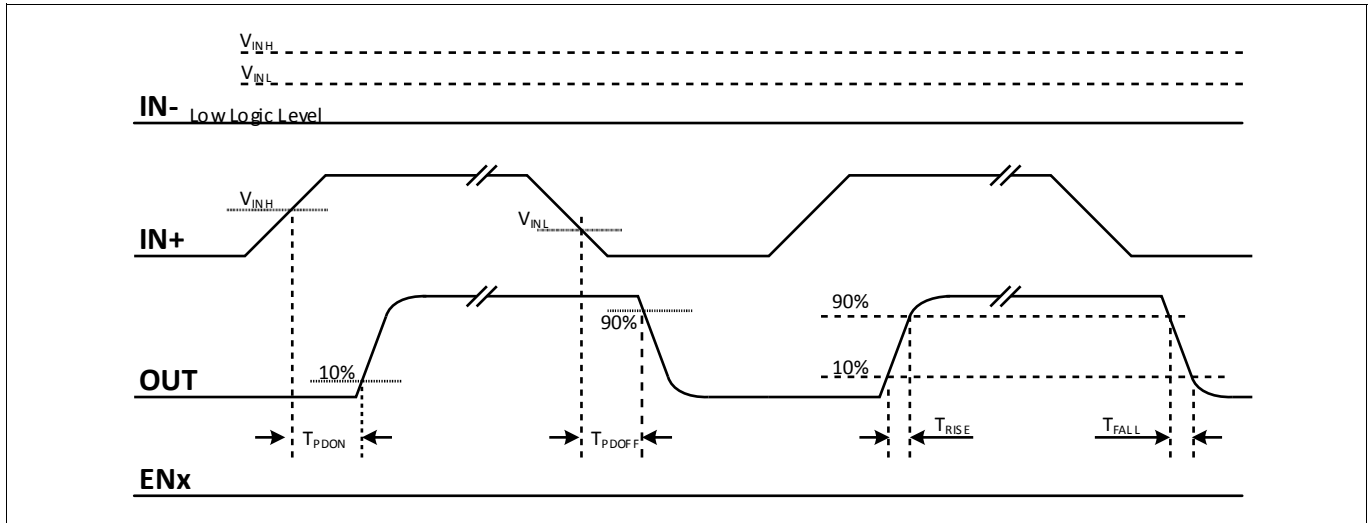
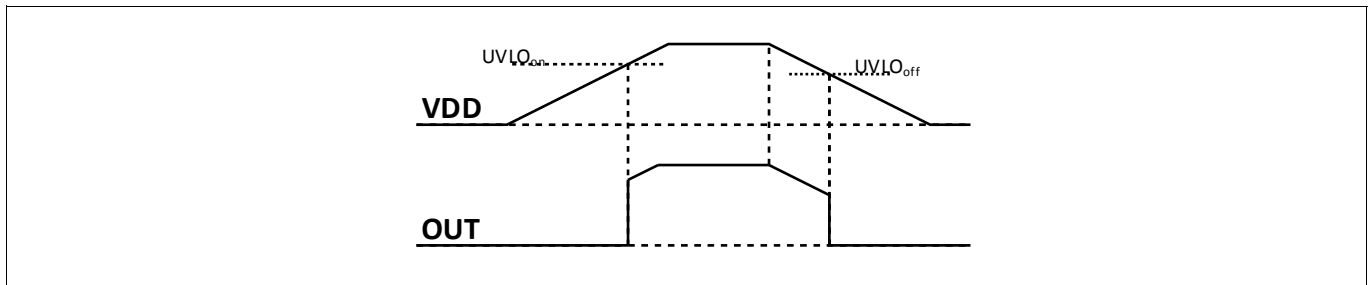
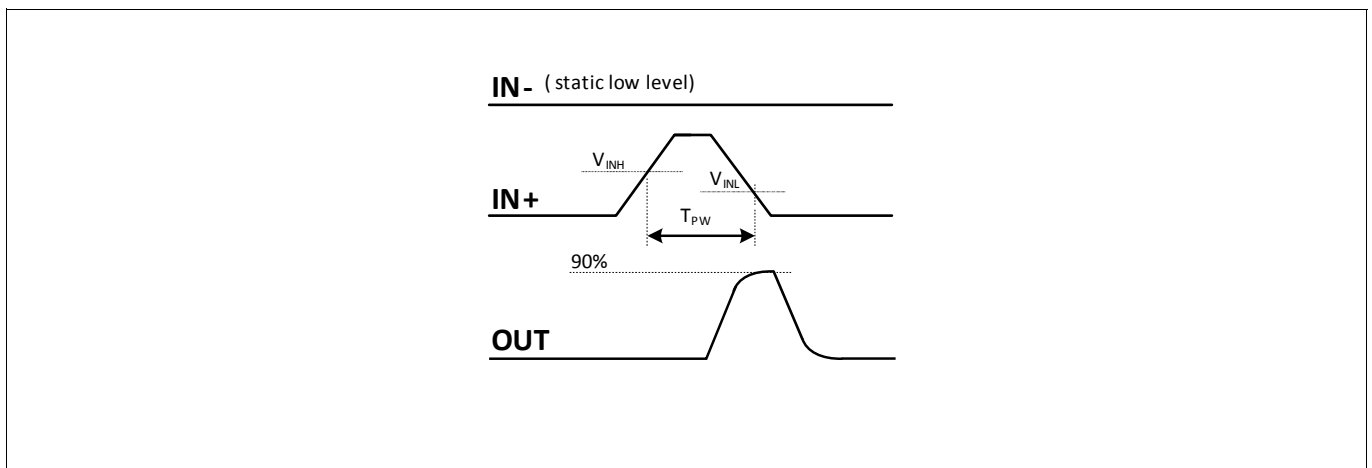

Figure 7 Propagation Delay, Rise and Fall Time, Non-inverted
Figure 8 UVLO Behaviour, Input INx Drives OUT Normally High.
Figure 9 TPW, minimum input pulse width that changes output state.
**Table 13 Dynamic Characteristics (see Figure 7, Figure 8, Figure 9)**
Figure 7 shows the definition of rise, fall and delay times for the inputs. This is also valid for the inverted control.
Figure 8 illustrates the undervoltage lockout function.
Figure 9 illustrates the minimum input pulse width that changes output state.
16	Insert pulse timing diagram: Figure 9